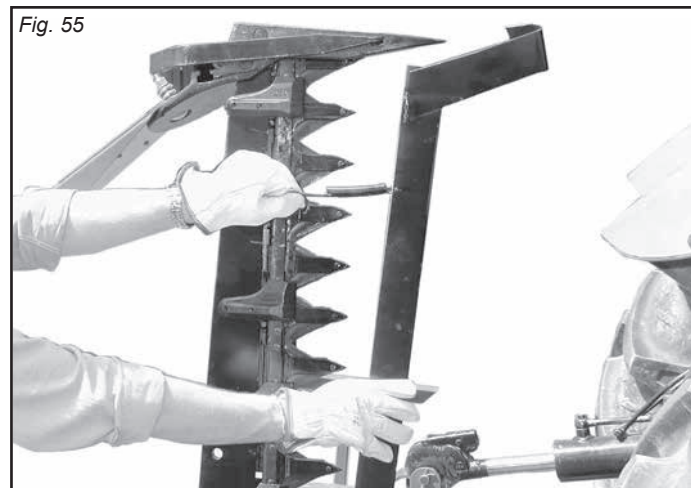

Fig. 55
- Cover the cutting blades and the outer mowing bar support with the guards provided (Fig. 55).